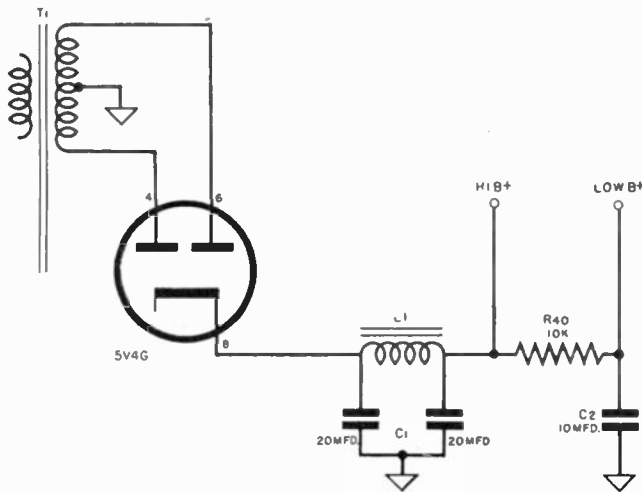

Fig. 5-23. Power supply circuit for seven-tube amplifier.
b) *Power Supply Circuit.* See Figure 5-23.
one end of each connected respectively to pin 2 and pin 5, their common point is then connected to B plus (see power supply diagram, Figure 5-23). Connect C3 and C4 from the plates of the two tube sections to the grids of the output tubes. Condensers C5 and C6 are not wired in the circuit until the phase inverter stage is completed.